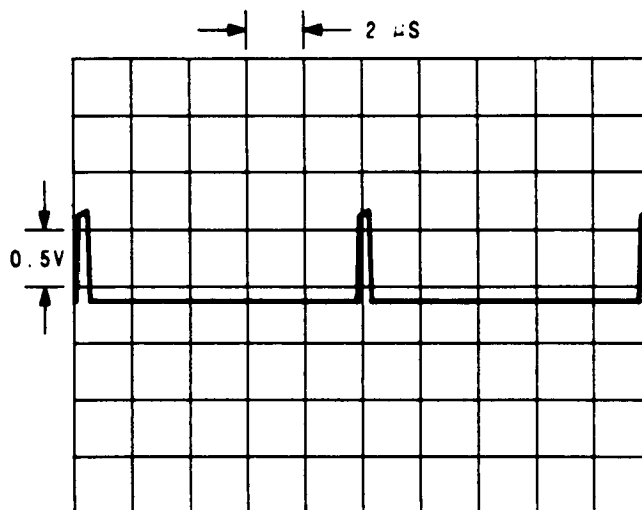

**Figure 10.** Oscilloscope Display of TP12, W3 in position W3B (service position), Signal Generator's frequency 960 MHz.
5. Verify that the waveform in Figure 10 is correct.